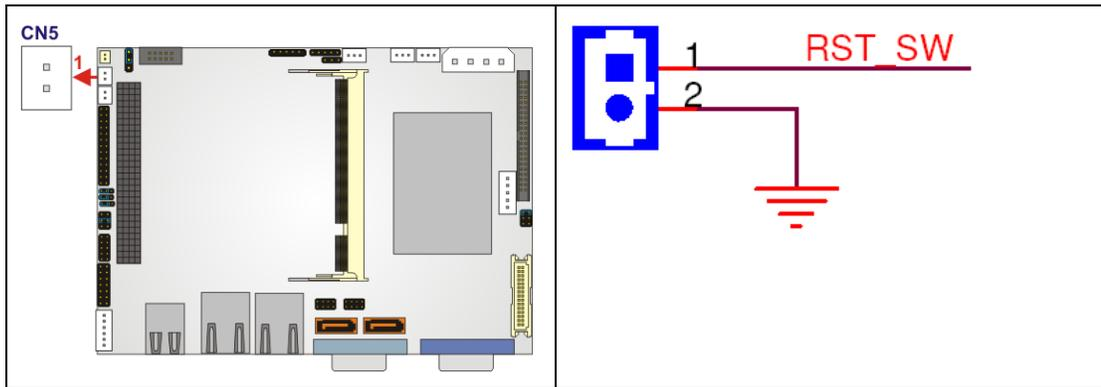

Figure 3-18: Reset Button Connector Locations
- CN Location:** See **Figure 3-18**